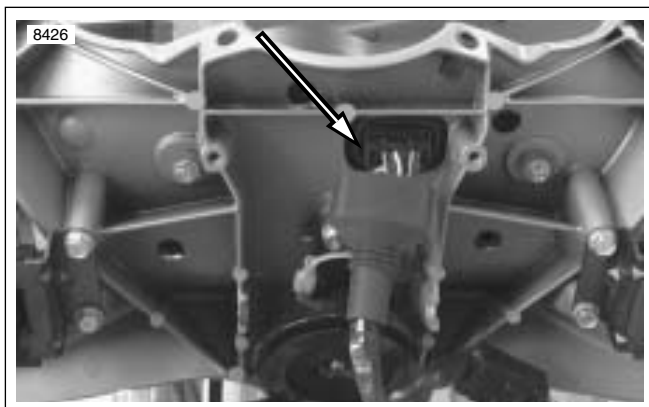
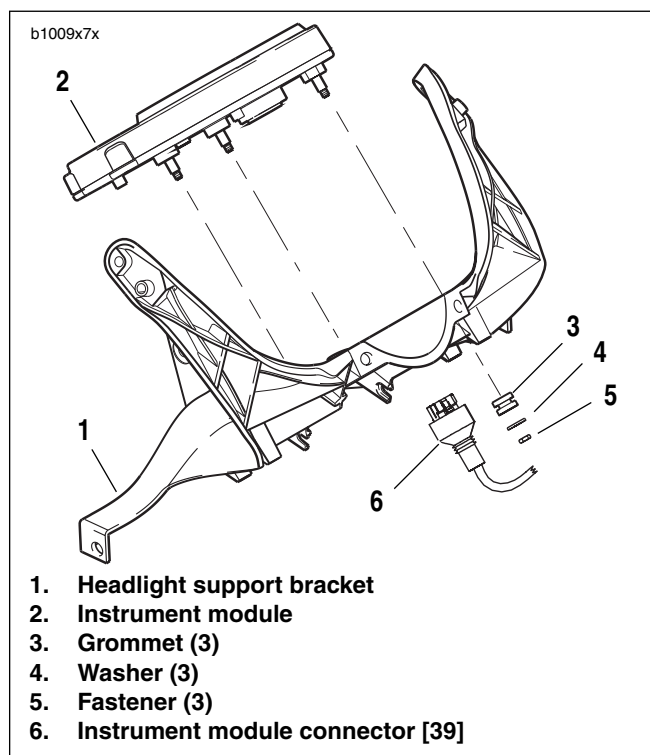

Figure 7-63. Instrument Module Connector [39]
Figure 7-64. Instrument Module
4. See Figure 7-63. Disconnect instrument module connector [39].
5. See Figure 7-64. Remove fasteners (5) and washers (4).
6. Pull instrument module (2) from headlight support bracket (1).
1. See Figure 7-64. Place instrument module (2) into position in headlight support bracket (1).
2. Install washers (4) and fasteners (5). Tighten fasteners to 12-36 **in-lbs** (1.4-4.0 Nm).
3. See Figure 7-63. Connect instrument module connector [39].